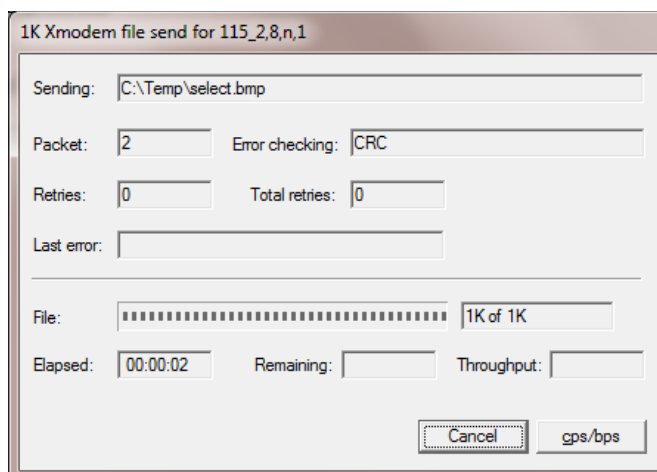

Figure D-8: Windows Transfer Window
11. The Send File window will close and a transfer window will open. This window shows the progress of the file transfer (Figure D-8).